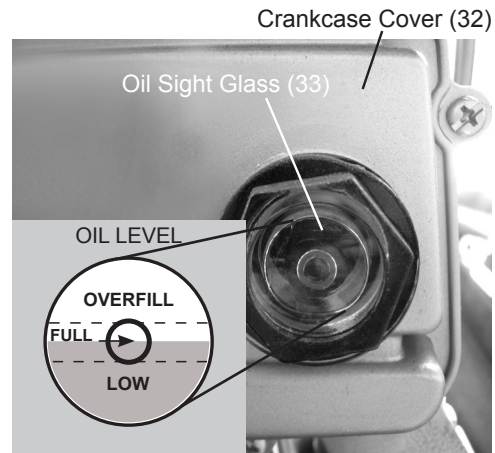

Figure 5
1. The oil level should be at the center of the "full" level on the Oil Sight Glass (33), as shown in Figure 5. Add oil as needed to maintain this level. Do not let the oil level go below the center dot (LOW as shown in Figure 5) and do not overfill the oil so that it is above the center dot (OVERFILL as shown in Figure 5) on the sight glass.
- a. Unthread the Oil Plug (31).